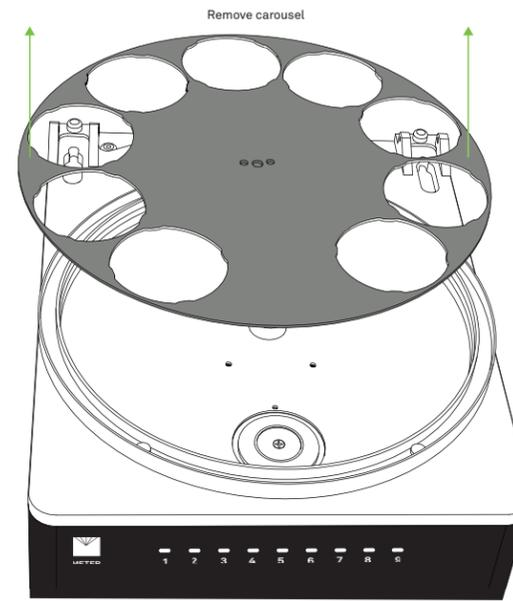
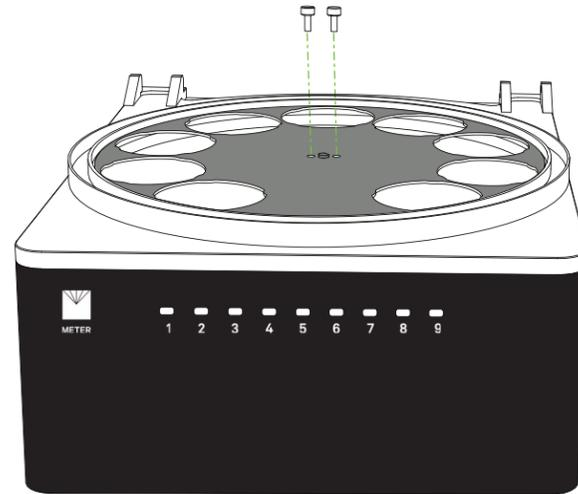

Figure 10 Remove Carousel
Figure 9 Remove Thumb Screws
4. Remove the carousel by removing the two thumb screws in the center of the carousel (Figure 9 and Figure 10).